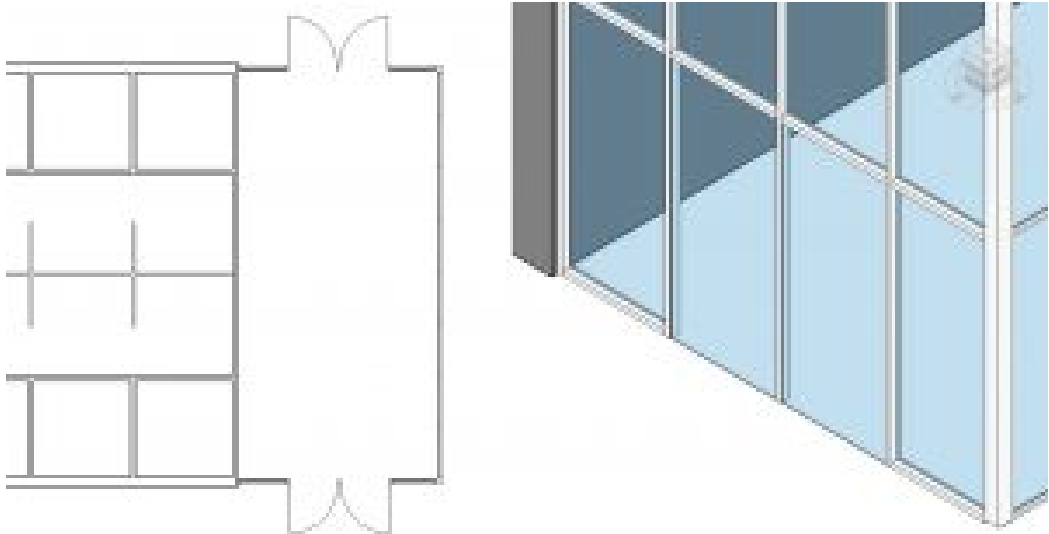

Figure 2.34 Storefront doors shown in plan and in 3D view
22. In the Level 1 view, adjust the door swing directions as shown in Figure 2.34